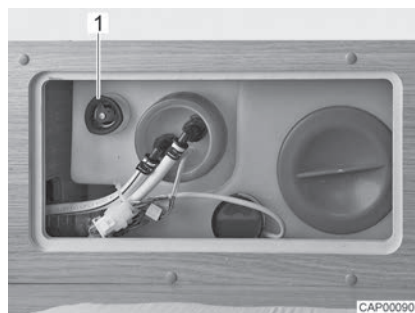

Fig. 73 Water tank with rotary handle
- Turn the rotary handle (Fig. 73,1) on the water tank in a clockwise direction as far as it will go.
- Turn the rotary handle (Fig. 73,1) on the water tank in an anticlockwise direction as far as it will go. Excess water will drain away leaving approx. 20 litres in the tank.